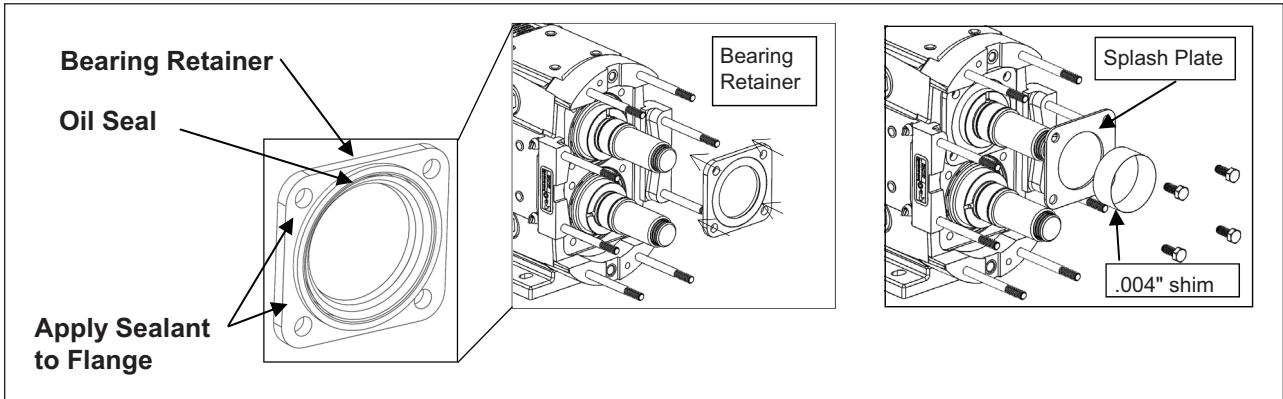

Figure 55. Bearing Retainer Installation
- Once the correct backface clearance is achieved, fill all bearings with grease through the fittings on the mounting pads until grease is noticeable around the bearing assemblies (*Table 4 Grease Quantity page 18*). The shafts should be rotated during this initial greasing to distribute the grease evenly. Apply a light film of lubricant to the inside and outside diameters of the oil seals and install them into the bearing retainers. Apply silicone sealant to the outside flanges on the bearing retainer (*Figure 55*). Once the silicone sealant is applied, install the bearing retainers and splash plates onto the gear case. Use .004" shim to properly center splash plates on shafts to avoid rubbing.